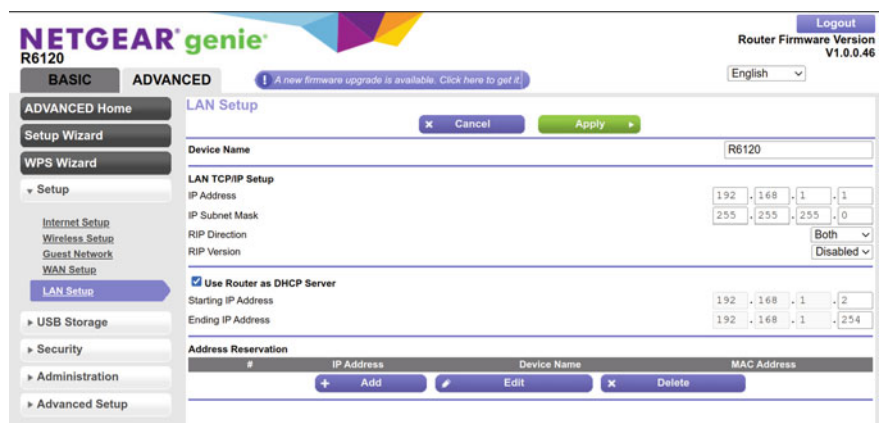

Fig. 3.4 Router GUI—Local Area Network (LAN) setup
0.0.0.0. While still under *Advanced* option, go to *Setup* field, and under this field, find *LAN setup*. Check the information under *LAN setup*, which shows the IP address and subnet mask, and make sure the DHCP server functionality is enabled in the router, as shown in Fig. 3.4.